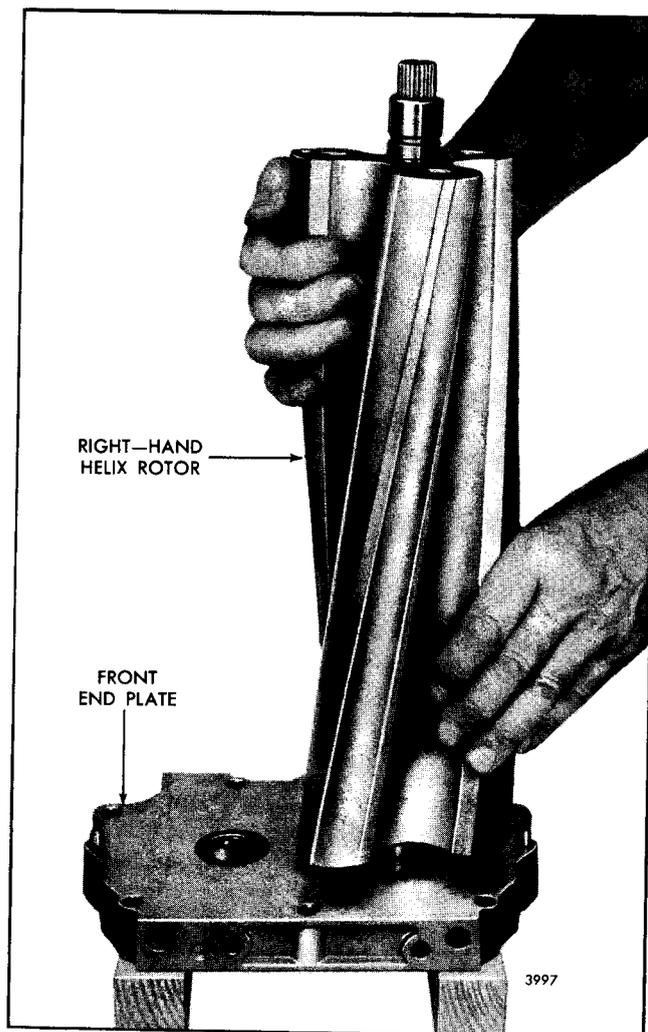

Fig. 14 - Installing Blower Rotor in Front End Plate
- b. Hold the right-hand helix rotor in a vertical position, gear end up, with the omitted serration in the splines of the shaft facing to the right as shown in Fig. 20. Then start the end of the shaft straight into the oil seal in the right-hand shaft opening in the end plate as shown in Fig. 14 and lower it until the lobes of the rotor contact the end plate.